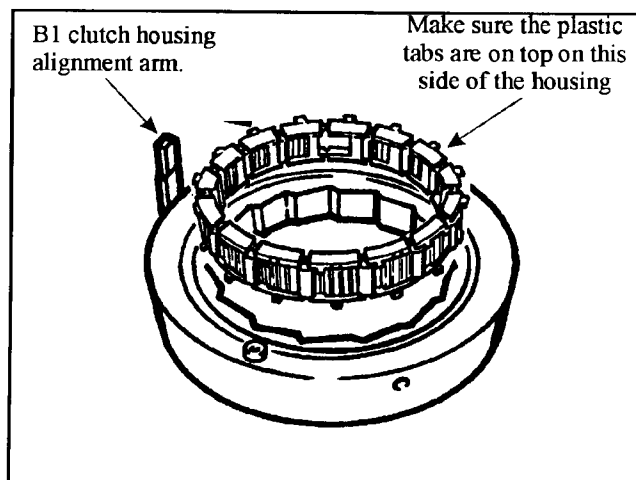
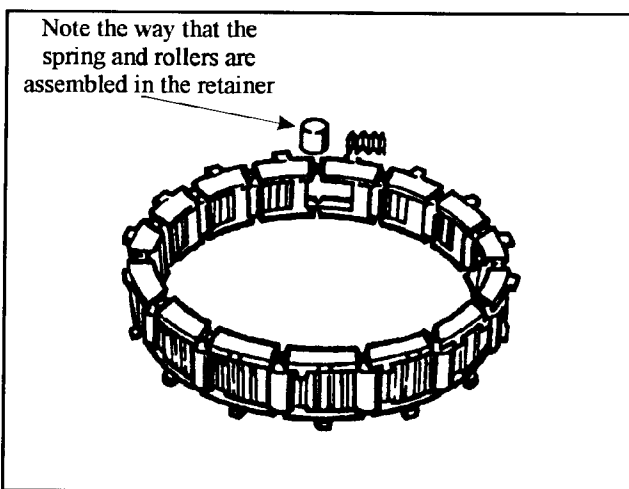

Figure 80
Figure 81
2. If you look at Figure 80 you will notice that the flat tabs of the plastic retainer lay on the top of the housing on the side where the alignment arm sticks up. This is opposite of the side that houses the B1 piston. The rollers and springs may fall out of the sprag assembly and they will need to be arranged the correct way should they fall out (See Figure 81).
3. Correct sprag assembly is shown in Figure 81.